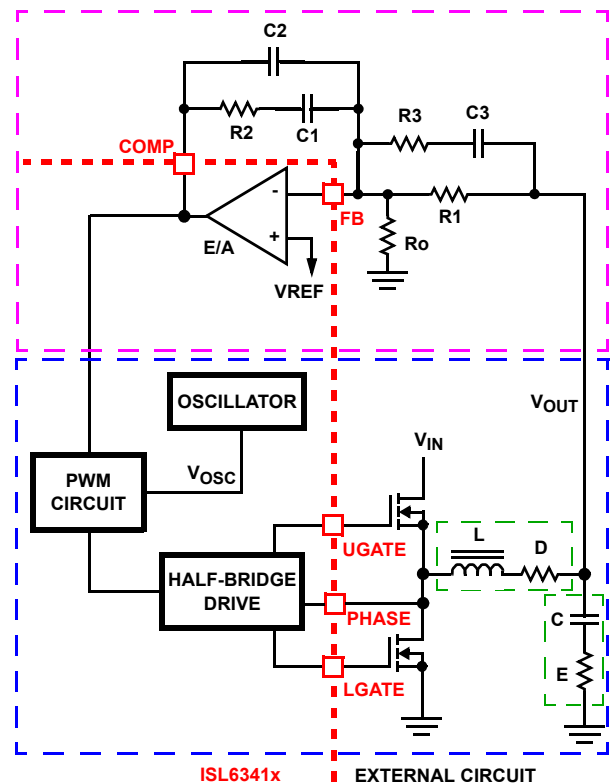

FIGURE 13. VOLTAGE-MODE BUCK CONVERTER COMPENSATION DESIGN
address a broad range of applications, a type-3 feedback network is recommended, as shown in the top part of Figure 13.
Figure 13 also highlights the voltage-mode control loop for a synchronous-rectified buck converter, applicable to the ISL6341x circuit. The output voltage (V_{OUT}) is regulated to the reference voltage, V_{REF} . The error amplifier output (COMP pin voltage) is compared with the oscillator (OSC) modified sawtooth wave to provide a pulse-width modulated wave with an amplitude of V_{IN} at the PHASE node. The PWM wave is smoothed by the output filter (L and C). The output filter capacitor bank's equivalent series resistance is represented by the series resistor E.
(F_0 ; typically 0.1 to 0.3 of f_{SW}) and adequate phase margin (better than 45°). Phase margin is the difference between the closed loop phase at F_{0dB} and 180° . The equations that follow relate the compensation network's poles, zeros and gain to the components (R_1, R_2, R_3, C_1, C_2 , and C_3) in Figure 13. Use the following guidelines for locating the poles and zeros of the compensation network:
4. Select a value for R_1 ($1k\Omega$ to $5k\Omega$, typically). Calculate the value for R_2 for desired converter bandwidth (F_0). If setting the output voltage via an offset resistor connected to the FB pin (R_0 in Figure 13), the design procedure can be followed as presented in Equation 4.